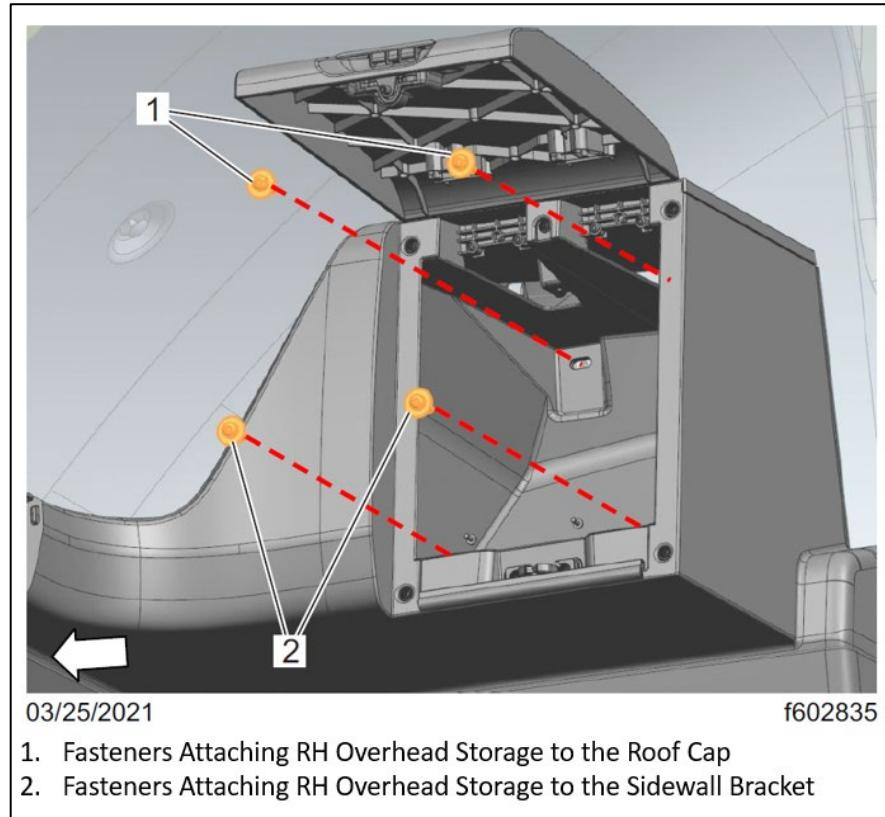

Fig. 54, Fasteners That Attach the RH Overhead Storage Assembly to the Roof Cap and the Sidewall Bracket
12.4. Install the four fasteners that attach the RH side overhead storage assembly to the roof cap, and the sidewall bracket. See **Fig. 54**. Tighten the fasteners 11 to 13 lbf.ft (14 to 18 N.m).